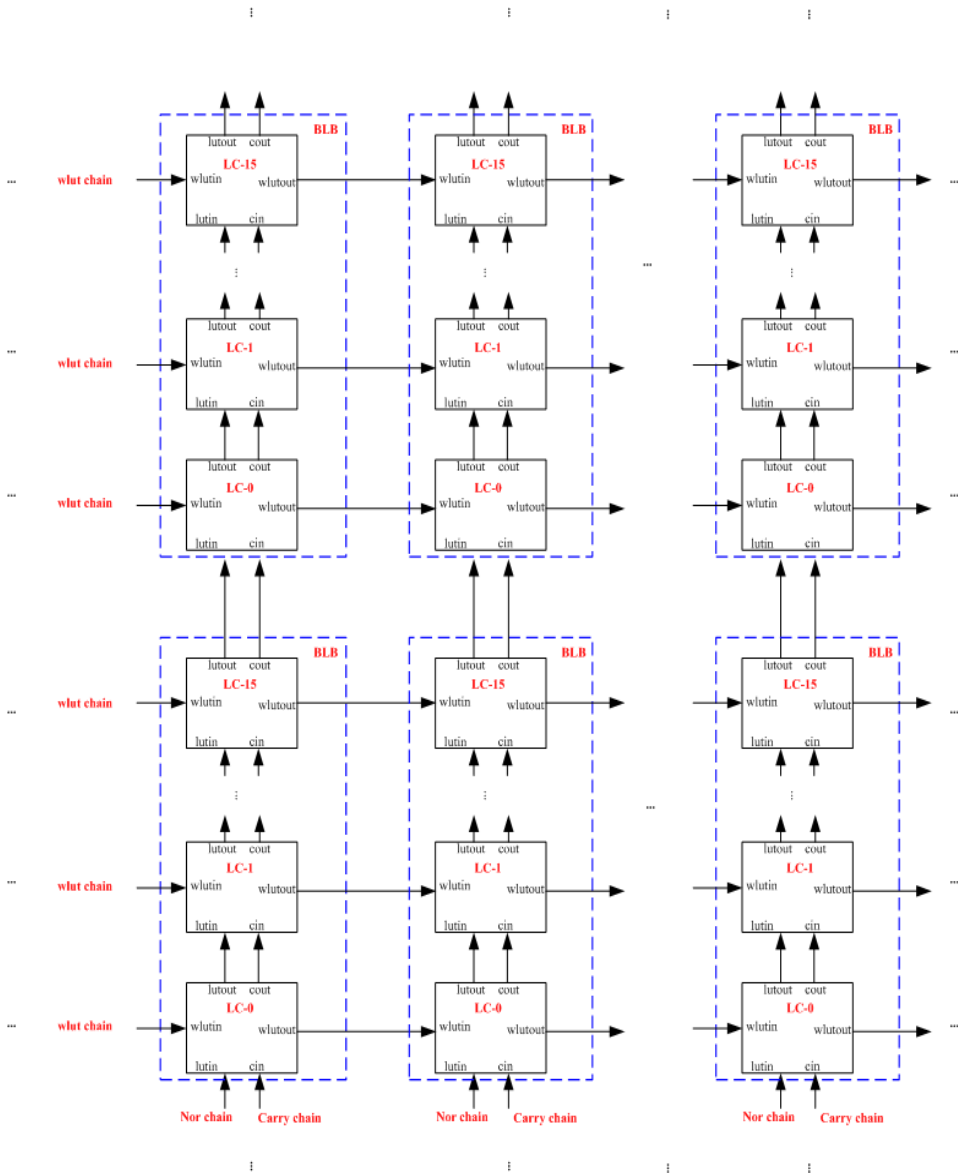

Figure 2.2.2 Carry Chain, Nor chain and WLUT chain
The carry chains are cascaded together through the carry chain input (CI) and carry chain output (CO) signals. The Nor chain are cascaded together through lutin and lutout; The WLUT chain are cascaded together through wlutin and wloutout. **Figure 2.2.2** shows the cascading of LCs.